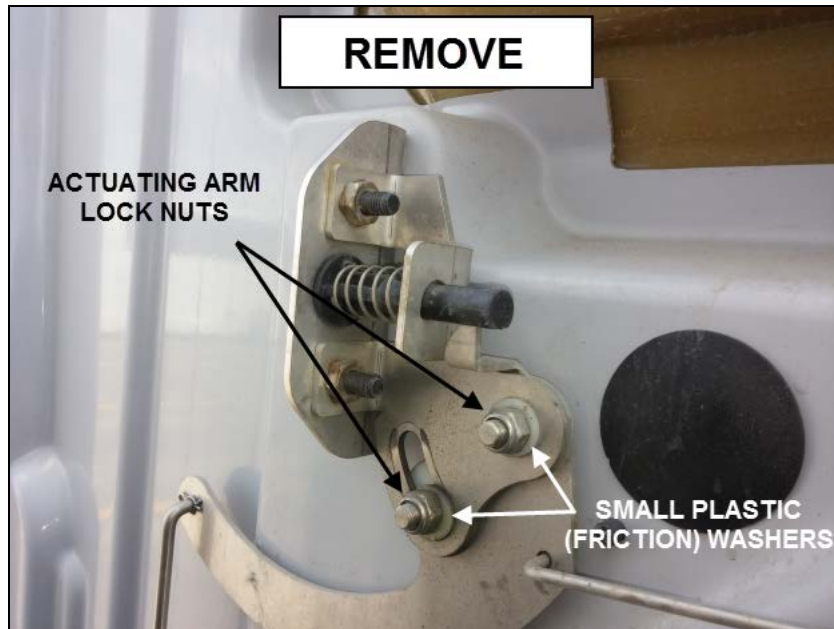

FIG.4 ACTUATING ARM LOCK NUTS
- Starting with the door curbside pin, remove the two actuating arm nuts and *small* plastic washers (Fig.4).